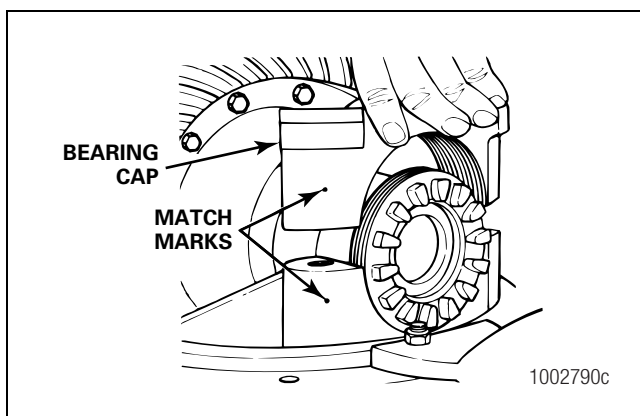

Figure 5.49
- Install the bearing caps over the bearings and adjusting rings. Align the match marks you made when you removed the caps. Figure 5.49.